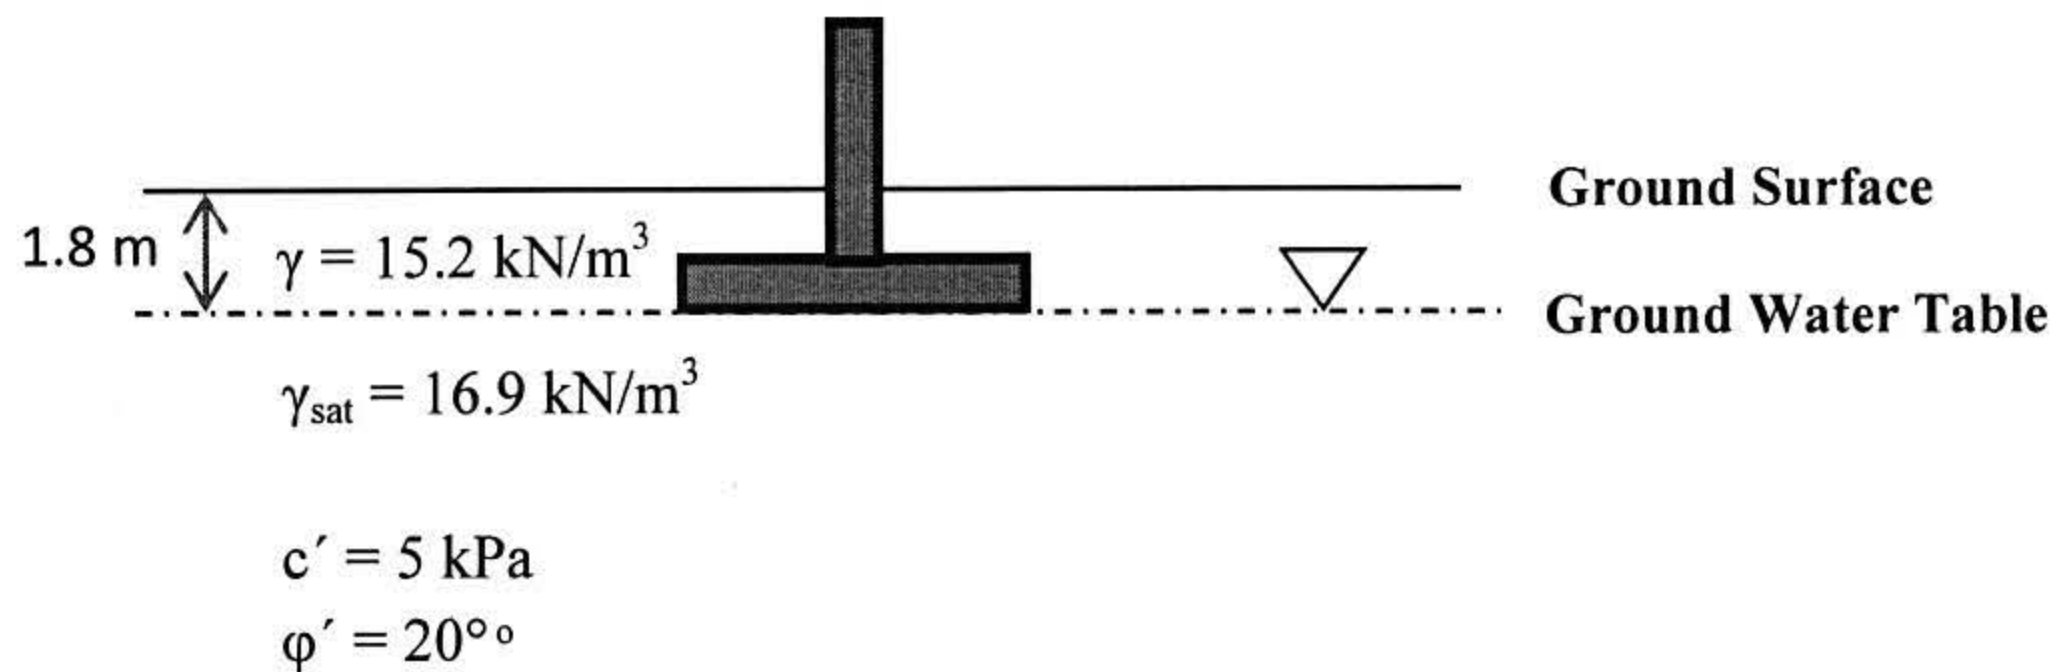

Fig. 1
- (a) Calculate the net allowable load on the rectangular footing (3 m \times 4 m), if factor of safety is 2.25. The footing and the soil profile is given in Fig.1. Use Meyerhof's chart.
- (b) Evaluate the safety of the rectangular footing (3 m \times 4 m), if eccentricity along the footing length is 0.3 m. The footing and the soil profile is given in Fig.1.